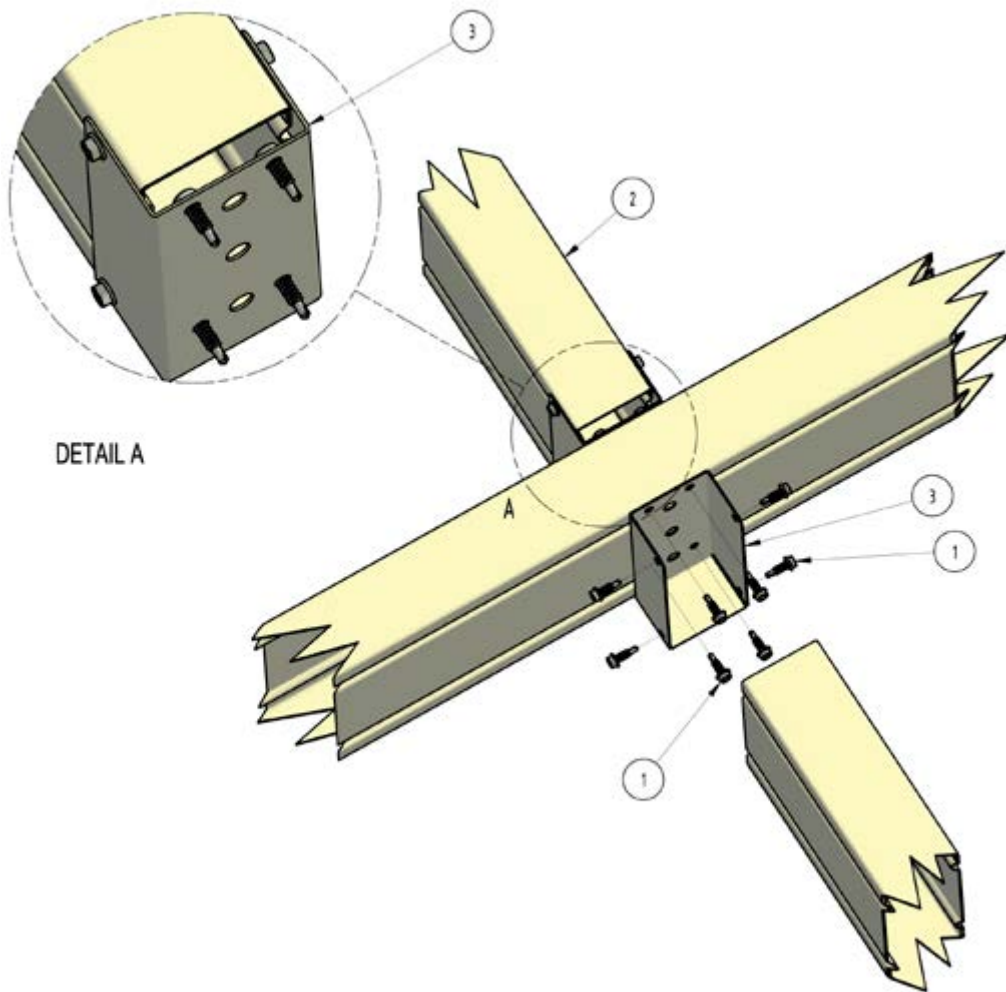

Figure A45
**Steel Beam to Beam Connection (See Figure A45)**